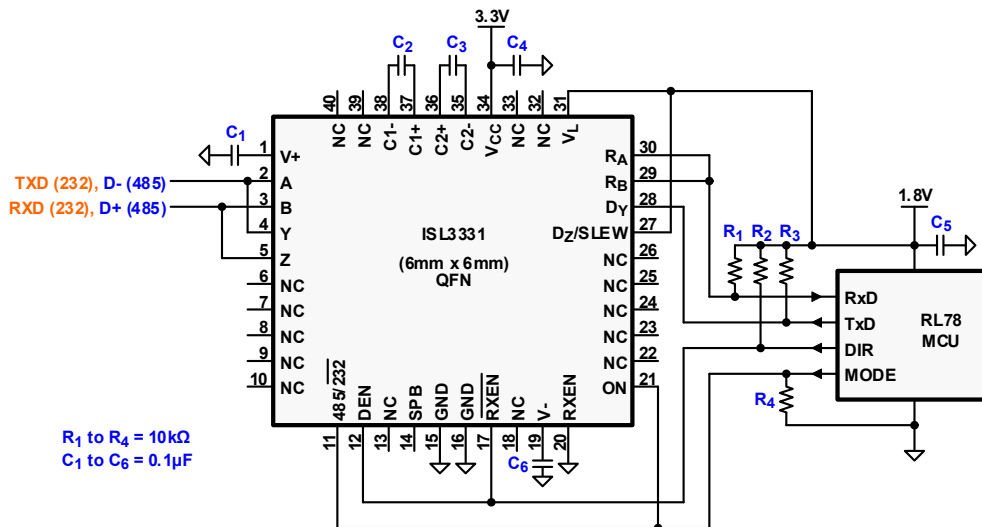

Figure 5. Half-Duplex Configuration for the ISL3331
- V_L is used to interface the ISL3331 to UARTs or microcontrollers that are powered by a supply voltage lower than 3.3V. Tying V_L to the lower supply voltage shifts the input thresholds and output voltages of the logic pins to values compatible with the lower supply (Figure 5).